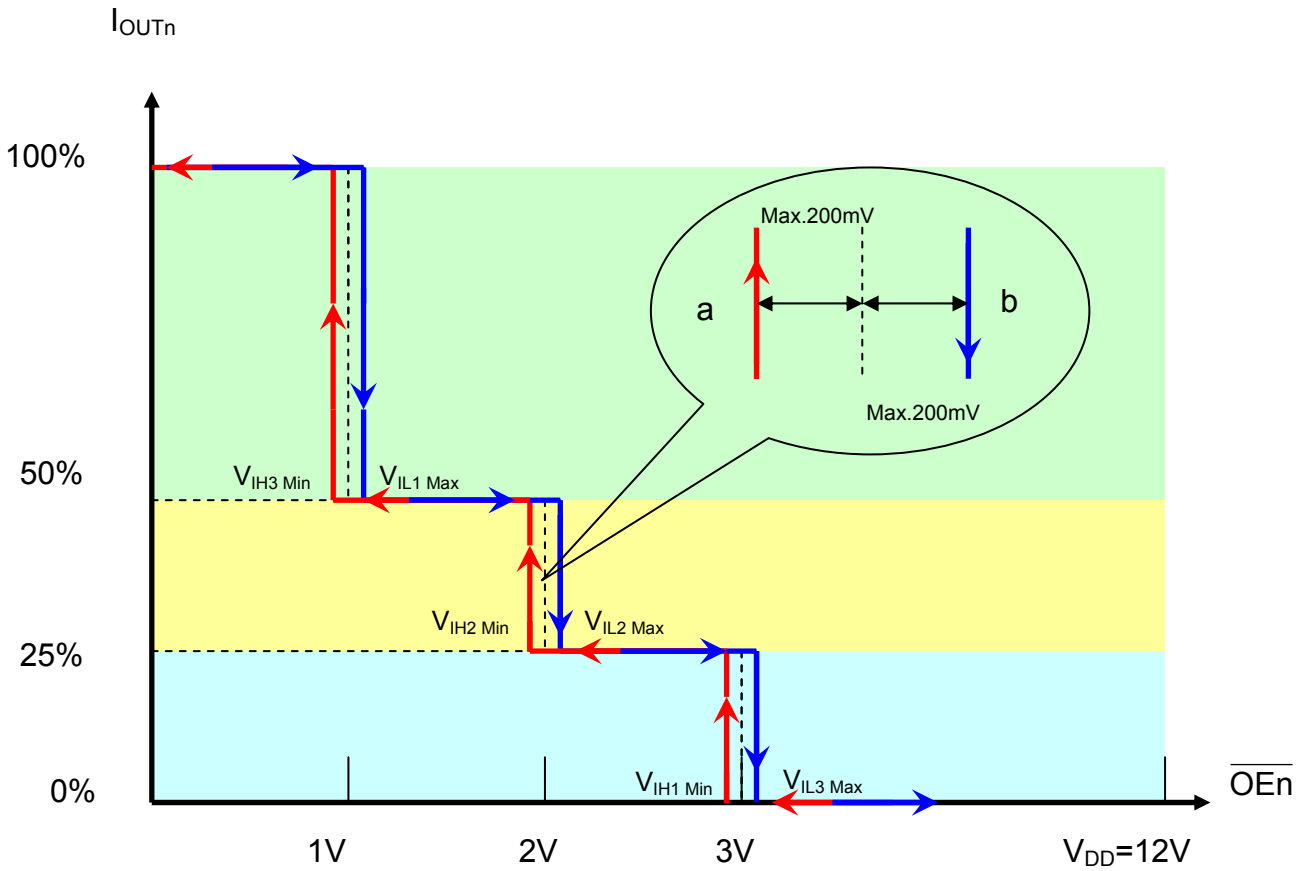

Figure 8
* Please refer to Figure 8 Adjustable Dimming Control on P.10 for details.
MBI1812 has analog dimming function for better application flexibility. MBI1812 provides two additional dimming level 25% and 50% of pre-set current which are controlled by \overline{OEn} , as shown in Figure 8 .
Besides, there is hysteresis design in each transition point. The maximum value 200mV is to avoid output current from flickering when \overline{OEn} swaying between the nominal value of pre-set levels (1V, 2V and 3V). For example, when users increase the output current by controlling \overline{OEn} from high to low, the transition points are ahead of nominal values and reach to 2.86V, 1.86V and 0.88V individually as shown in the red line “a” of Figure 8.
On the other hand, when \overline{OEn} are from low to high, it means to dim the output current. Those transition points are behind nominal values and reach to 1.15V, 2.14V and 3.12V accordingly as shown in the blue line “b” of Figure 8.